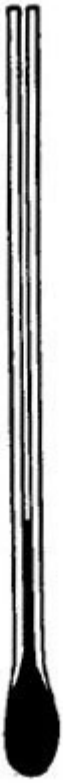
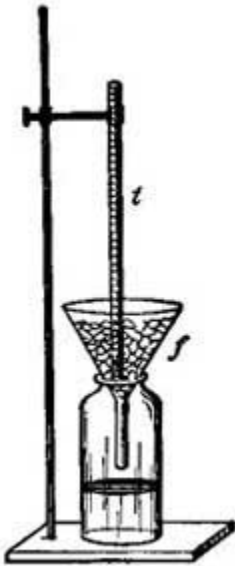

FIG. 8.—
FIG. 10.—Determining the lower fixed point of a thermometer.
6. The Thermometer. The modern thermometer consists of a glass tube at the lower end of which is a bulb filled with mercury or colored alcohol (Fig. 8). After the bulb has been filled with the mercury, it is placed in a beaker of water and the water is heated by a Bunsen burner. As the water becomes warmer and warmer the level of the mercury in the tube steadily rises until the water boils, when the level remains stationary (Fig. 9). A scratch is made on the tube to indicate the point to which the mercury rises when the bulb is placed in boiling water, and this point is marked 212° . The tube is then removed from the boiling water, and after cooling for a few minutes, it is placed in a vessel containing finely chopped ice (Fig. 10). The mercury column falls rapidly, but finally remains stationary, and at this level another scratch is made on the tube and the point is marked 32° . The space between these two points, which represent the temperatures of boiling water and of melting ice, is divided into 180 equal parts called degrees. The thermometer in use in the United States is marked in this way and is called the Fahrenheit thermometer after its designer. Before the degrees are etched on the thermometer the open end of the tube is sealed.